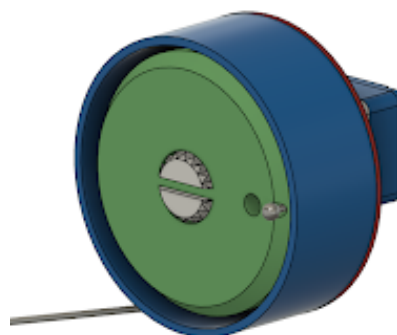

Figure 3.10: Spool Cover (Blue) surrounding string mechanism.
11. Place the corresponding opening in the String Spool into the Potentiometer, then push it in until it is against the Spring Tensioner (Figure 3.10.b).